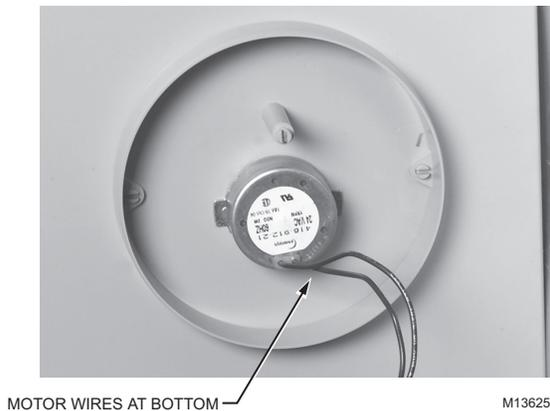

Fig. 21. Installing Motor Plate.
3. Position the Motor Plate on the opposite side of the Humidifier Housing with the wires at the bottom. See Fig 21.